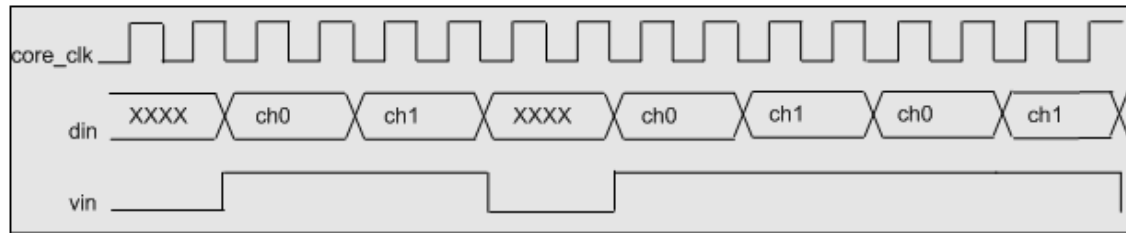

Figure 3 Valid port usage with multi-channel filters
- * **vin** : valid in port. Marks each input on the din port as valid(high) or invalid(low). For multi-rate, multi-channel filter cases, if the signal driving vin port is high for channel 0's data sample, then it must remain high until a corresponding sample for all the other channels has been clocked in(Figure 3). In other words, a data sample for each channel from the first channel through to the final channel must be provided on consecutive clock cycles and the vin port must remain high over all these cycles. A simulation error will be reported if this rule is not adhered to.